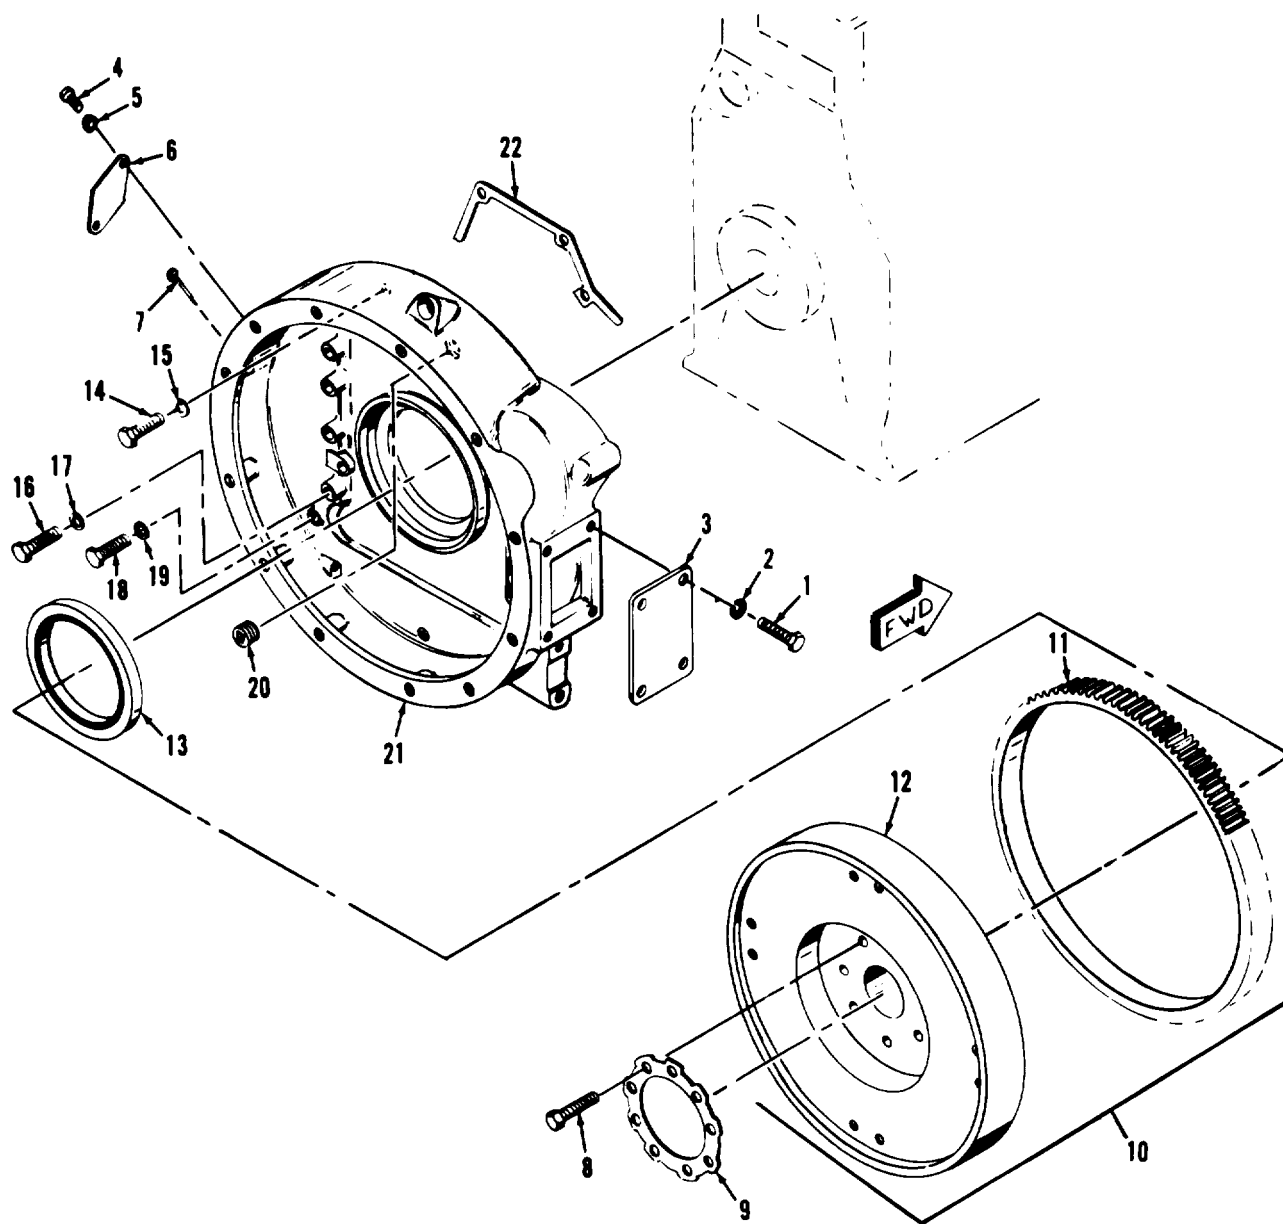

Figure 8-57. Flywheel and flywheel housing group,
Refer to figure 8-57 and disassemble flywheel and flywheel housing in the order of index numbers assigned. Pay particular attention to the following:
Under no circumstances should the ring gear (11, figure 8-57) be heated over 600°F as excessive heating may destroy the original heat treatment. Do not heat ring gear in one area.
Refer to figure 8-57 and reassemble flywheel and flywheel housing group in the reverse order of index numbers assigned. Pay particular attention to the following:
Legend to figure 8-57:
2. Lubricate sealing lip of seal (13, figure 8-57) lightly with crankcase oil. Put MIL-S-22473 sealant on the outer metal shell of the seal. Bolt pilot to the crankshaft flange and position seal on pilot with lip facing cylinder block as shown in figure 8-58 (view B).
4. Tighten nut to press seal (13, figure 8-57) into flywheel housing (21). Remove installation tools.
e. Before locating flywheel assembly (10, figure 8-57) on crankshaft, make sure that alignment scribe lines are lined up.
flywheel housing (21, figure 8-57) bore). Stop and remove tool before recording each reading to ensure accuracy. The maximum total indicator reading must not exceed 0.012 inch.
7. If the flywheel housing (21, figure 8-57) face run-out is excessive, remove flywheel housing (21), and check for dirt or foreign material (such as old gasket material) between flywheel housing (21) and cylinder block. Install flywheel housing (21) and recheck the run-out. When run-out is correct, bend up lock ring tabs (9, Figure 8-57).